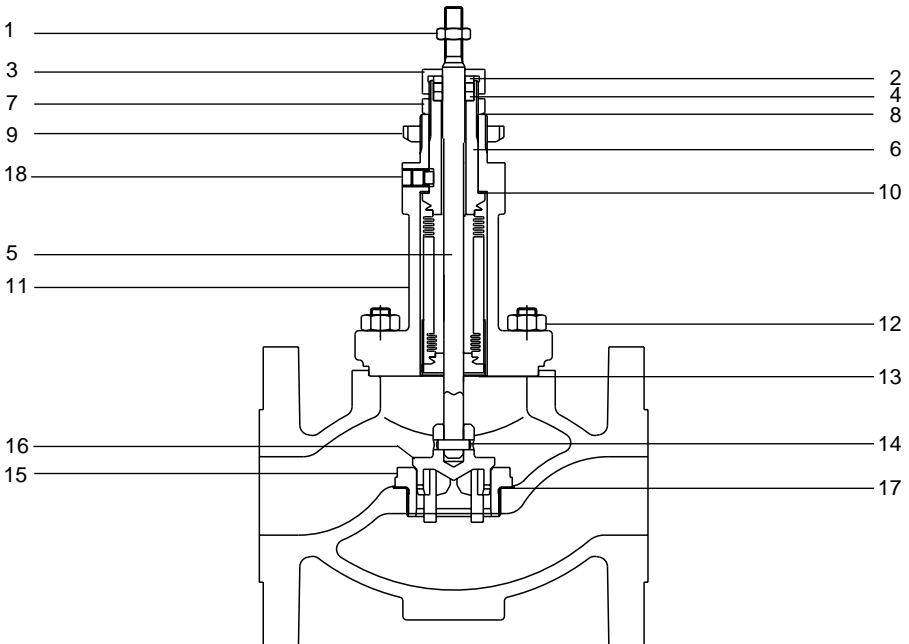

Fig. 3
3.2 Procedure for renewing valve plug, seats and bellows assembly Fig. 3